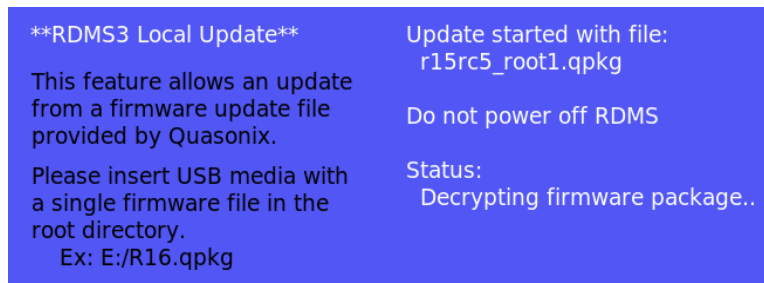

Figure 182: RDMS3 Local Update Screen, Update Status
- During the update, a status displays, as shown in Figure 182.